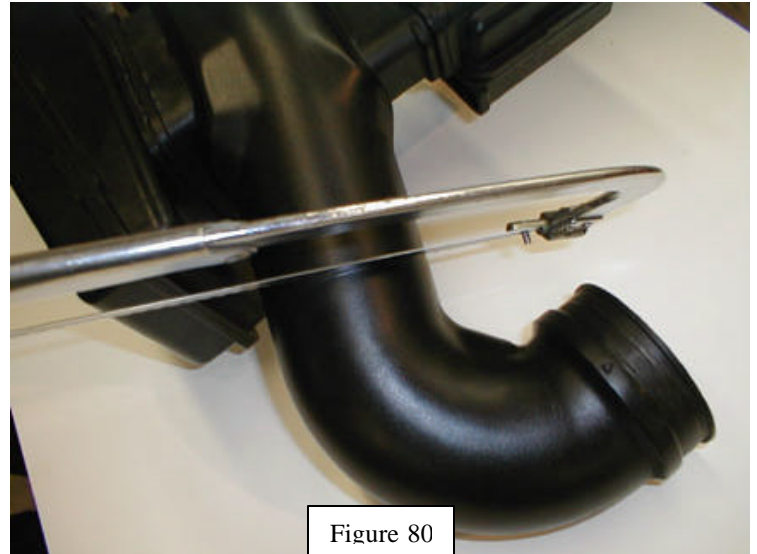

Figure 80
80. Use a hacksaw or band saw to cut the OE Land Cruiser/LX470 intake air connector into two pieces. Cut connector in the middle of the straight section (Figure 80).